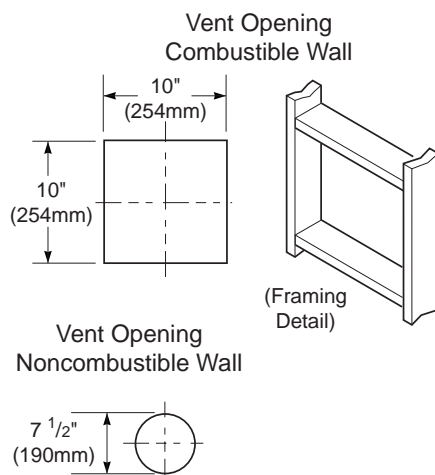
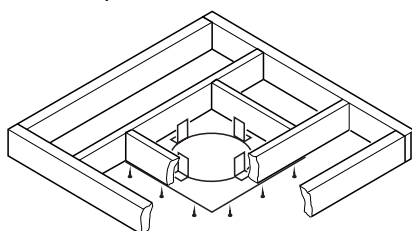

Figure 22 - Vent Opening Requirements
Figure 31 - Installing Firestop
3. Attach vent pipe assembly to the burner system. Set stove in front of its permanent location to insure minimum clearances. Mark the wall for a 10" square hole (for noncombustible material such as masonry block or concrete, a 7 1/2" diameter hole is acceptable). See Figure 22. The center of the hole should line up with the center-line of the horizontal rigid vent pipe. Cut a 10"x10" (254mm x 254mm) square hole through combustible exterior wall (7 1/2" [190mm] diameter hole if noncombustible). Frame as necessary (see Figure 22).
1. Cut a 10" square hole in the ceiling using the locating hole as a center point. The opening should be framed to 10"x10" (254mm x 254mm) inside dimensions, as shown in Figure 22 on page 12 using framing lumber the same size as the ceiling joists. If the area above the ceiling is an insulated ceiling or a room, nail firestop from the top side. This prevents loose insulation from falling into the required clearance space. Otherwise, install firestop below the framed hole. The firestop should be installed with no less than three nails per side (see Figure 31, page 15).
3. Cut a hole in the roof using the locating hole as a center point. (Cover any exposed open vent pipes before cutting hole in roof.) The 10"x10" hole must be measured on the horizontal; actual length may be larger depending on the pitch of the roof. There must be a 1" clearance from the vent pipe to combustible materials. Frame the opening as shown in Figure 22 on page 12.